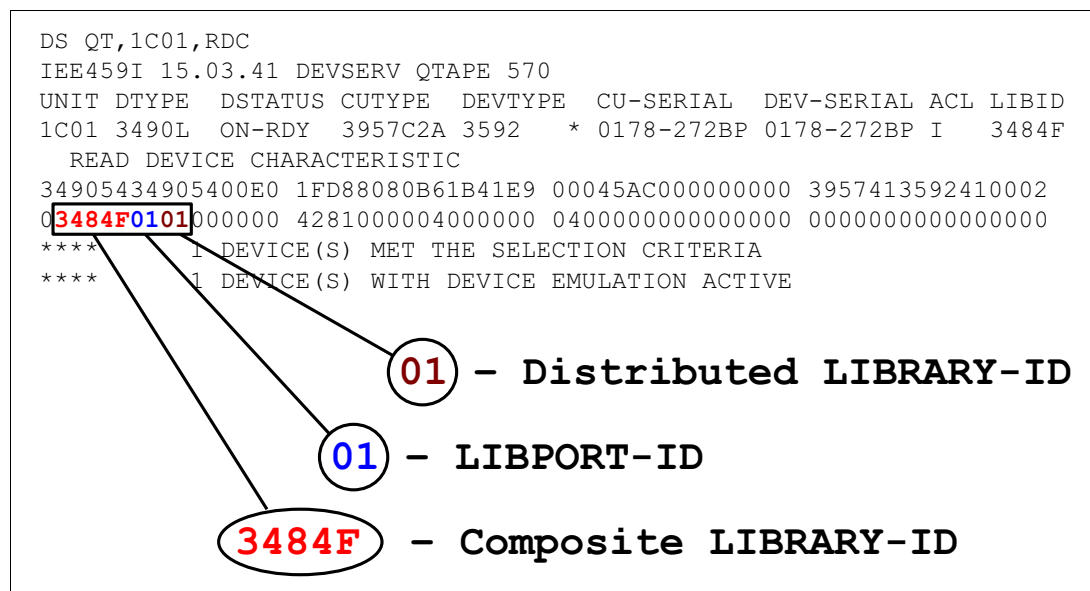

Figure 12-1 Sample DEVSERV QT command output
Figure 12-1 shows the output of a **DS QT** system command.
**Clarification:** The distributed library number or cluster index number for a specific logical drive can be determined by using the **DS QT** command. As shown in Figure 12-1, the response shows LIBPORT-ID 01 for logical drive 1C01. LIBPORT-ID 01 is associated with Cluster 0. For more information about the association between distributed libraries and LIBPORT-IDs, see 6.1.1, “Defining devices through HCD” on page 243.
From the **DS QT** command that is shown in Figure 12-1, you can derive the LIBRARY-ID for the composite library and the LIBPORT-ID of the logical control unit (LCU) that is presenting the logical device.